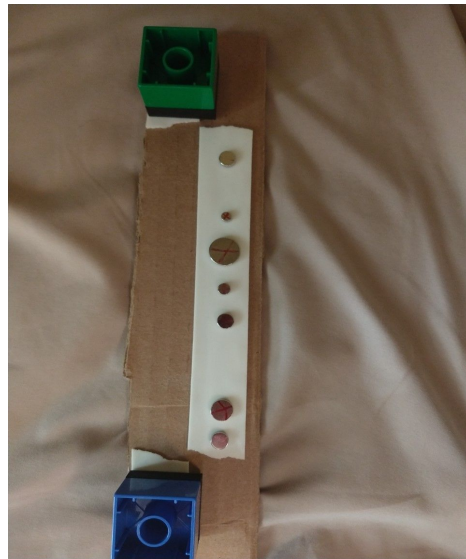

Figure 6. One possible layout of magnets hidden underneath a sample surface. This is a layout of medium difficulty
- Attach magnets of varying sizes, spaced randomly along a straight line, to the underside of each of the 10” cardboard strips (Figure 6). Make sure that the hidden magnets are all aligned so that they all repel the one attached to the students’ AFMs later on.